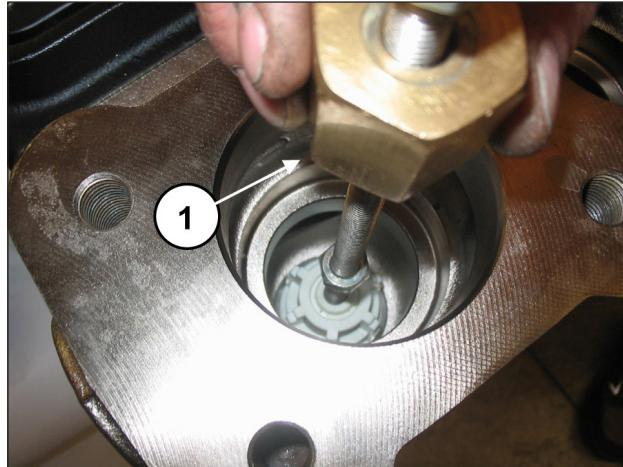

Fig. 94
Extract the suction valve unit with the use of an extractor hammer (code 27516400) to be applied on the M10 hole of the valve guide (pos. ①, Fig. 94) or, in addition, an M10-M16 adapter (code 25089700) to be attached to the M16 thread of the valve guide.